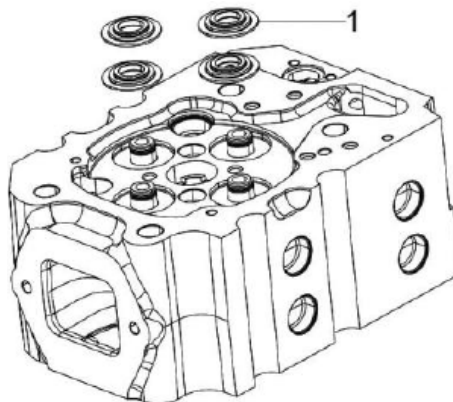

Figure 69. Valve Spring Retainer
1. Install the valve spring bottom retainer (Figure 69, 1).